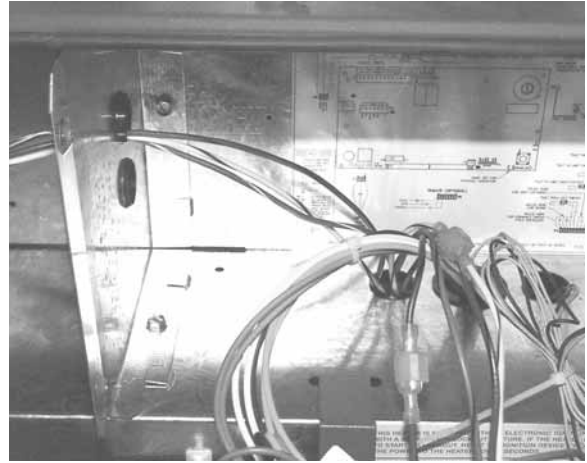

Fig 18
20. Continue to route the harness down through any available grommet hole. See Fig. 18.